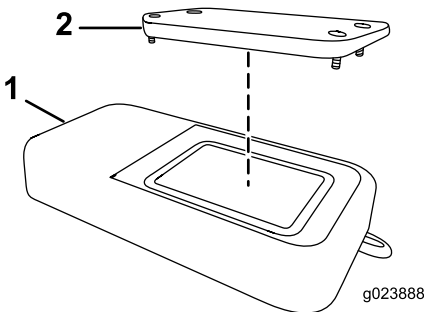

Figure 58
2. Remove the cover (Figure 58).